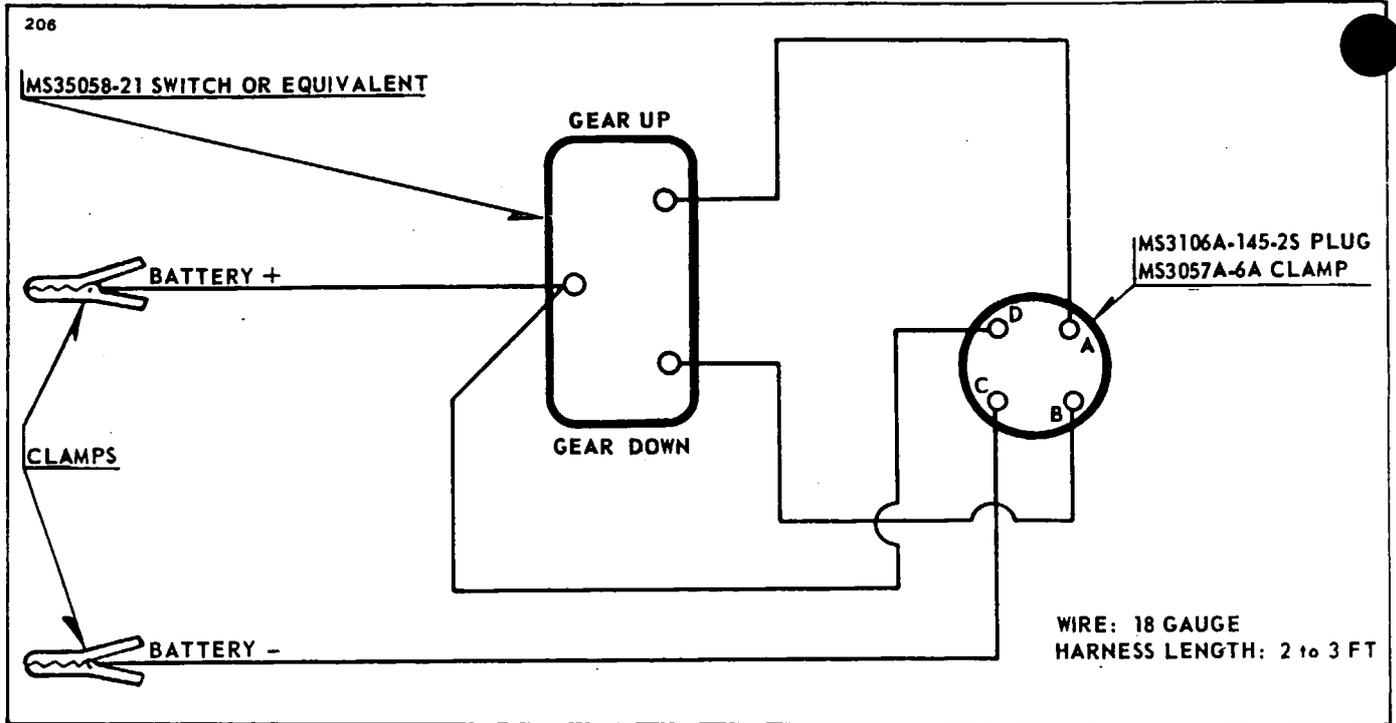

Figure 29-11. Power Pack Test Harness Schematic
*For the control of the door valve solenoid, it will be necessary to fabricate an electric harness as shown in Figure 29-11. This harness, when connected to a 24-volt battery will allow control of the electrical current to the door valve solenoid, permitting operation of the hydraulic door circuits.*
2. Connect a test harness to the electrical plug of the power pack and to power source. (Test harness may be fabricated as shown in Figure 29-11.)